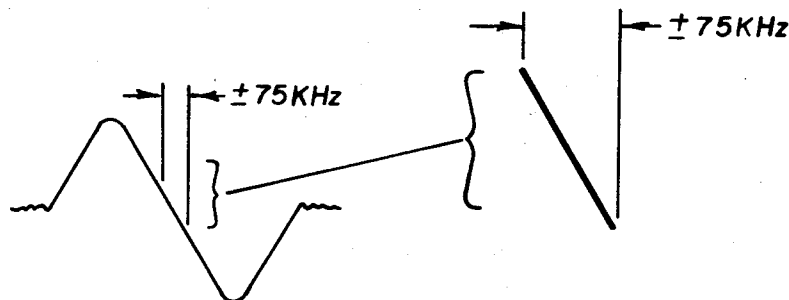

Figure 4
5. To align the FM Detector, with the FM generator connected as in Step 1, move the oscilloscope to the record output jack on rear panel. Reduce the modulation to $\pm 75\text{KHz}$ and connect a DC VTVM to the detector output (4-channel adapter jack). Adjust the top core of the detector transformer (T9) for a zero indication on the DC VTVM and the bottom core of the detector transformer for maximum gain and linearity (see Figure 4).